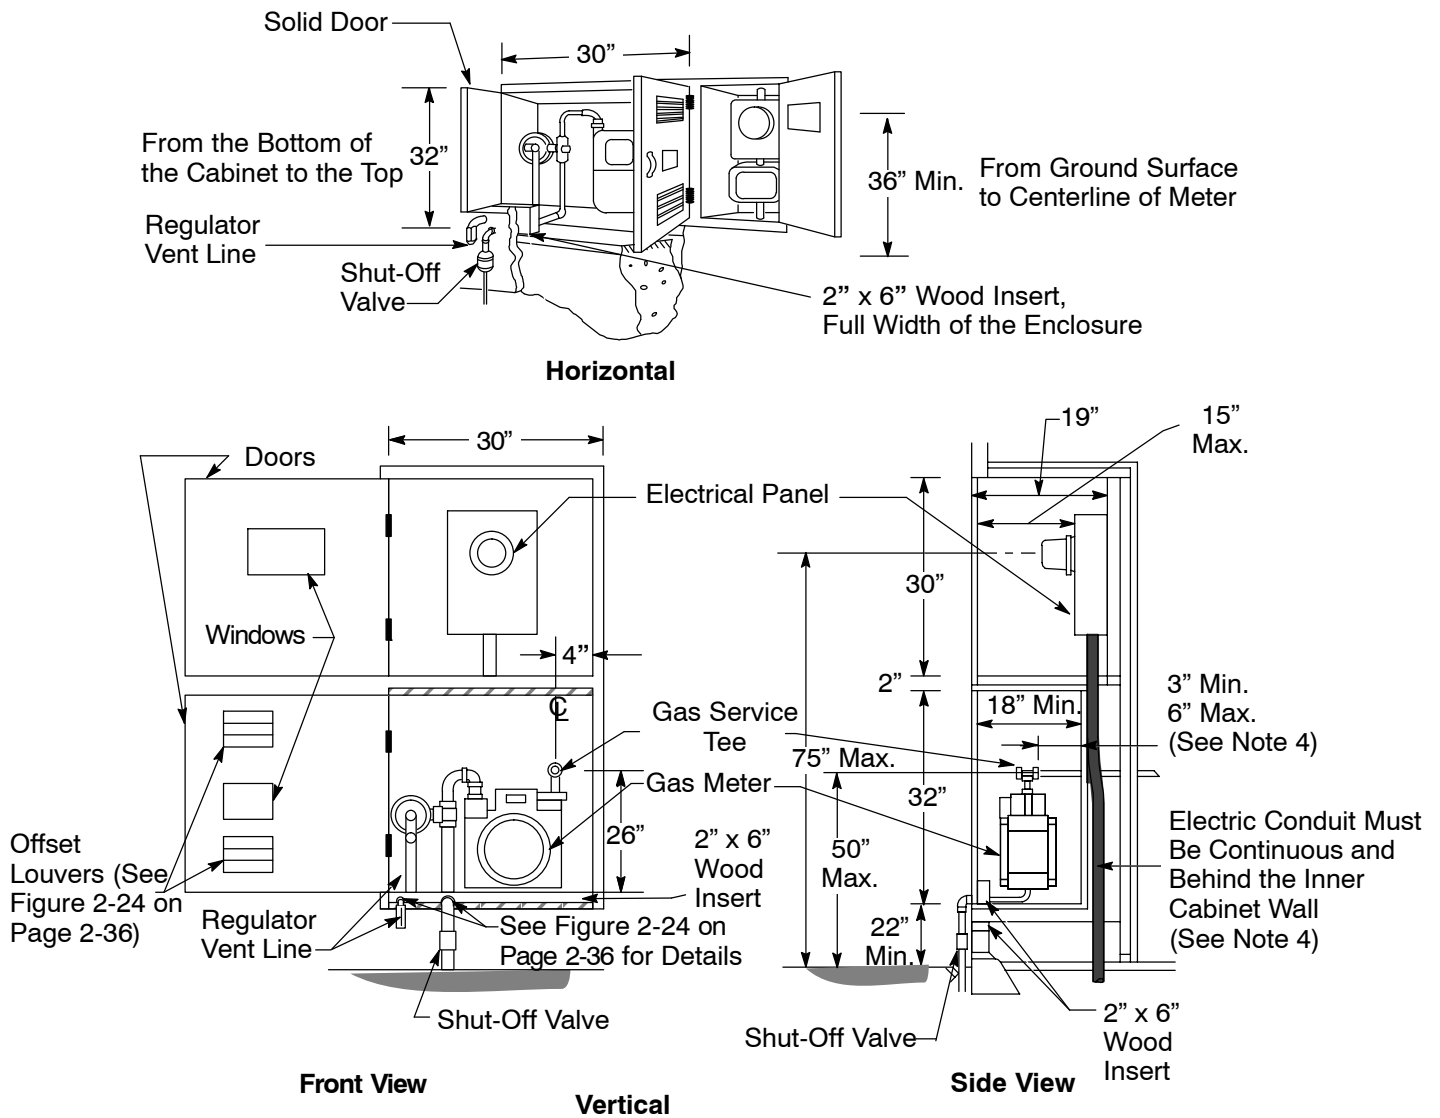

Figure 2-25
4. Louver or vent the right door at the top and bottom of the door, as shown in Figure 2-24, Detail A, "Front." An acceptable vent size for both the top and bottom vents is a 3-inch diameter round vent. This size vent must provide a minimum net-free area of approximately 4 square inches per vent. Consider installing 3-inch by 8-inch vents, where practical. When installing a cabinet with a single door, offset the louvered openings in the door. The louvered openings should **not** be above the gas regulator vent's termination opening, as illustrated in Figure 2-25, "Recessed, Individual Meter Cabinet–Horizontal or Vertical–for Gas and Electric Meter Installations," on Page 2-38.
Figure 2-25, "Recessed, Individual Meter Cabinet–Horizontal or Vertical–for Gas and Electric Meter Installations," on Page 2-38, shows the dimensions and details for a recessed, individual meter cabinet for both horizontal and vertical gas and electric meter installations.
Notes in reference to Figure 2-25.
Notes in reference to Figure 2-25, continued.
7. Construction material and sealing requirements for the cabinet from Figure 2-24 also apply to Figure 2-25.
4. See Figure 2-24 on Page 2-36, and Figure 2-25 on Page 2-38, for meter-cabinet details.